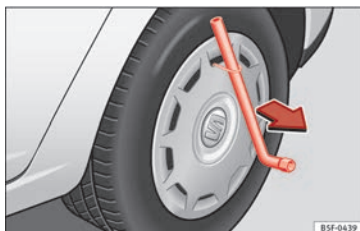

Fig. 71 Remove the wheel cover.
- Remove the wheel cover using the wire hook » » **Fig. 71**.